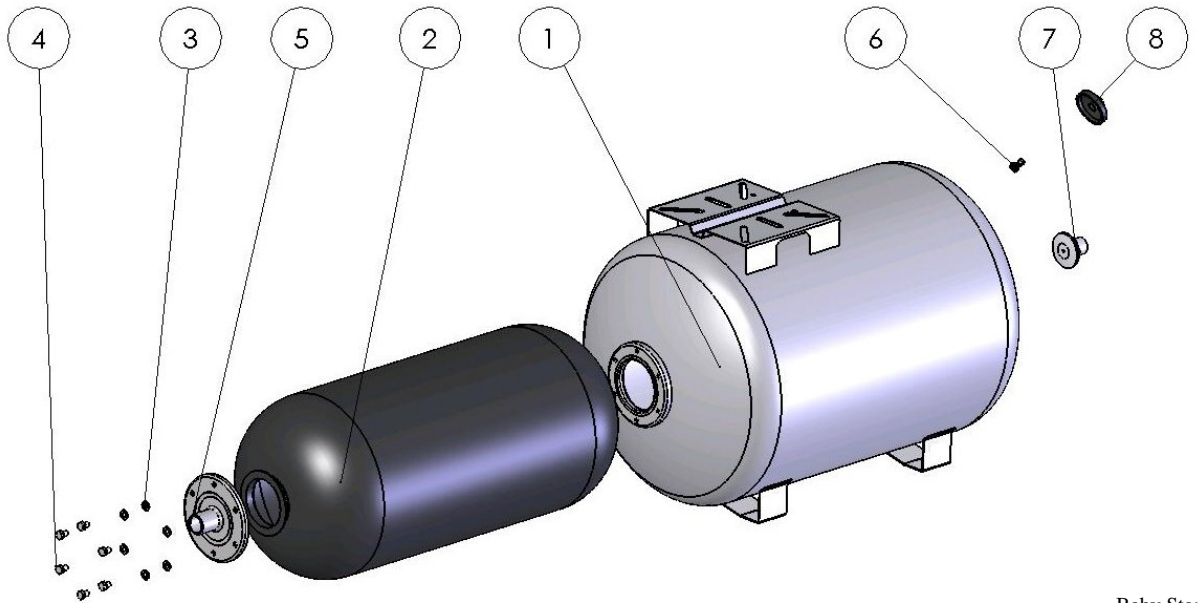

Figure 3
2. Remove the pre-charging with the air-ventil (see figure 3)
3. Loosen the screws fastening the flange (see figure 3)
4. Remove the flange (see figure 3)
5. Remove the couplig connection diaphragm (see figure 3)